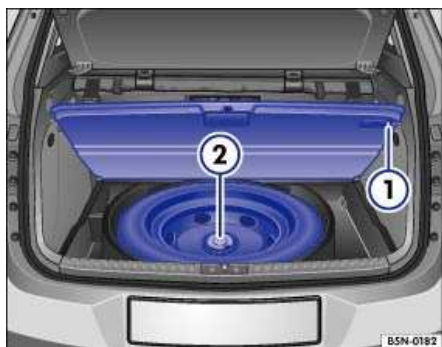

Fig. 26 Compact spare wheel and tire inside the luggage compartment below the floor panel.
- Push the holding pin ⇒ Fig. 26 (1) to the right and then lower the luggage compartment floor. The holding pin will stop the variable luggage compartment floor from falling back down.
- Remove the bolt (2) in the middle of the temporary spare wheel.